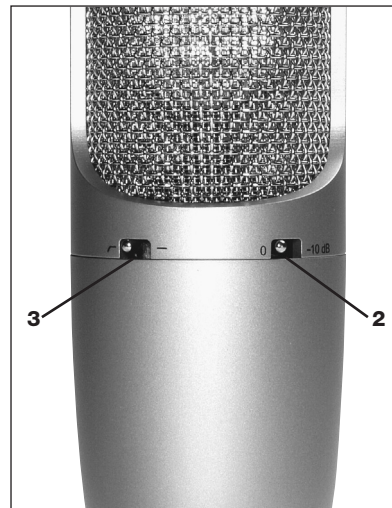

Fig. 2: Preattenuation (2) and bass cut (3) switches on **PERCEPTION 400** rear.
- **Switchable preattenuation pad:** Selector 2 on the microphone rear (refer to fig. 2) lets you increase the headroom by 10 dB for distortion-free close-in recording. The preatten-
- **Bass cut filter:** Selector 3 on the microphone rear (refer to fig. 2 on page 3) further reduces low-end distortion caused by footfall or wind noise, etc. The filter also minimizes the proximity effect that close-in miking from less than 4 inches causes in any unidirectional microphone. The filter rolls off at 12 dB/octave from 300 Hz downward.
Refer to fig. 2 on page 4.